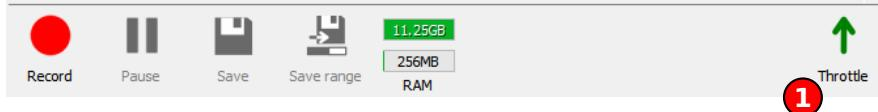

Figure 10.22: Toolbar including -Dual Rate
Button: The speed selection is toggled manually by pressing a button in the footer toolbar (cf. ① in Fig. 10.22).